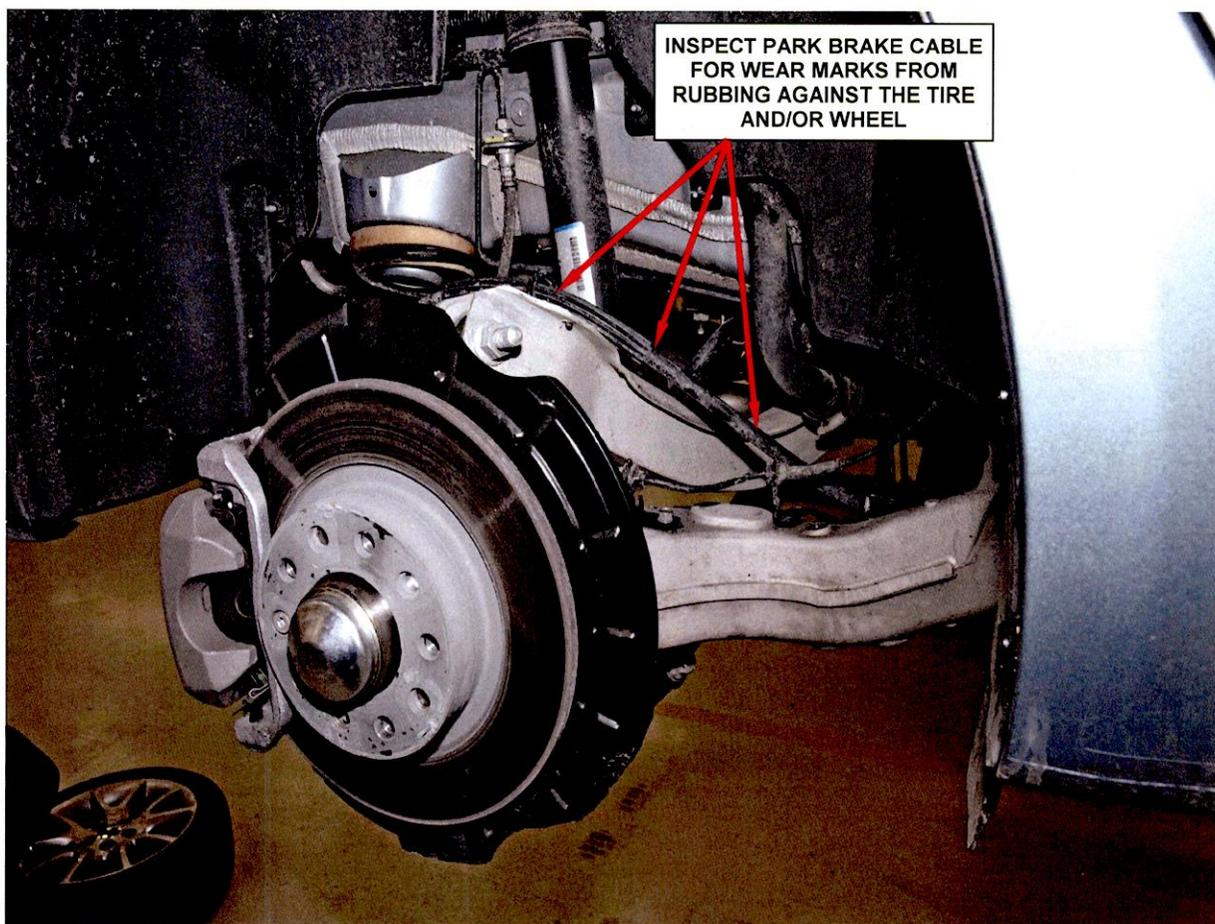

Figure 2 – Inspect the Park Brake Cable for Signs of Rubbing Against the Wheel and/or Tire Sidewall (right side shown)
- If there are no rub marks (Figure 2) on the park brake cables, continue to **Section E. Replace Brake Caliper(s)**.